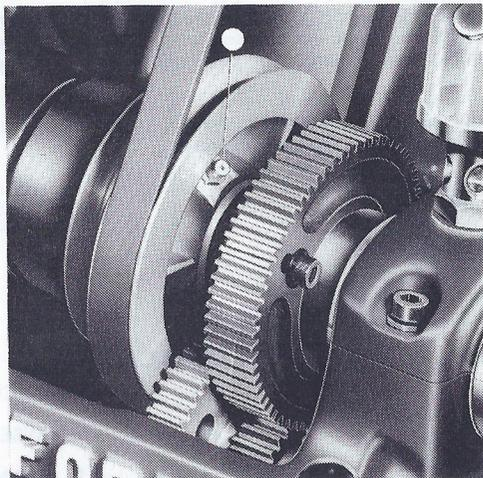

Fig. 29. Showing the oil nipple for headstock pulley bearing lubrication
**IMPORTANT:** WHENEVER THE HEADSTOCK REDUCTION GEAR IS USED, ENSURE THAT THE HEADSTOCK PULLEY BEARING IS WELL LUBRICATED VIA THE OIL NIPPLE AT THE LARGE END OF THE PULLEY. Fig. 29.